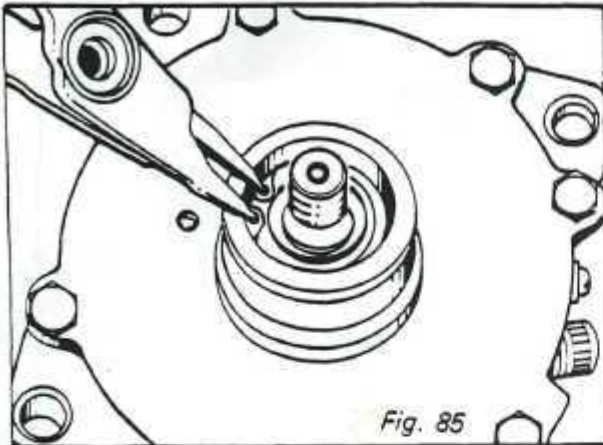

Fig. 85
Step 2 — Refer to Figures 85 – 86
Step 5 — Remove shaft seal seat retaining snap ring with pliers (Pinch type). Fig. 85